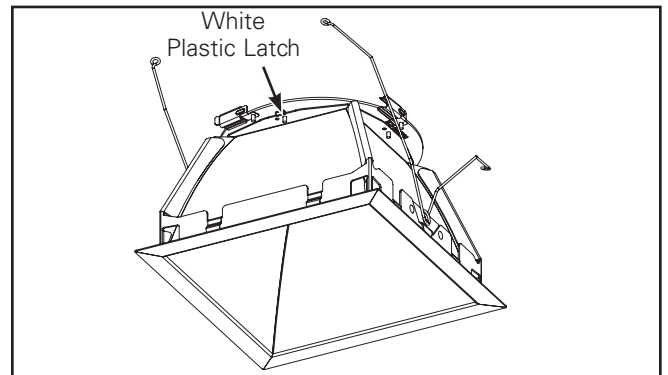
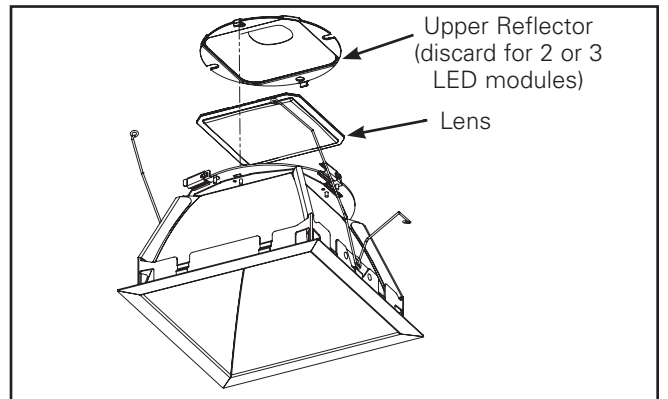

Figure 10
Figure 11
4. If the LED modules has 2 or 3 LEDs, gently remove the upper reflector by disengaging the white plastic latches (Figure 10. & Figure 11.) and discard it. Retain the upper reflector on the trim for 1LED modules.
1. Press in on white plastic latch to remove upper reflector and clean lens. (Figure 10 & 11.)